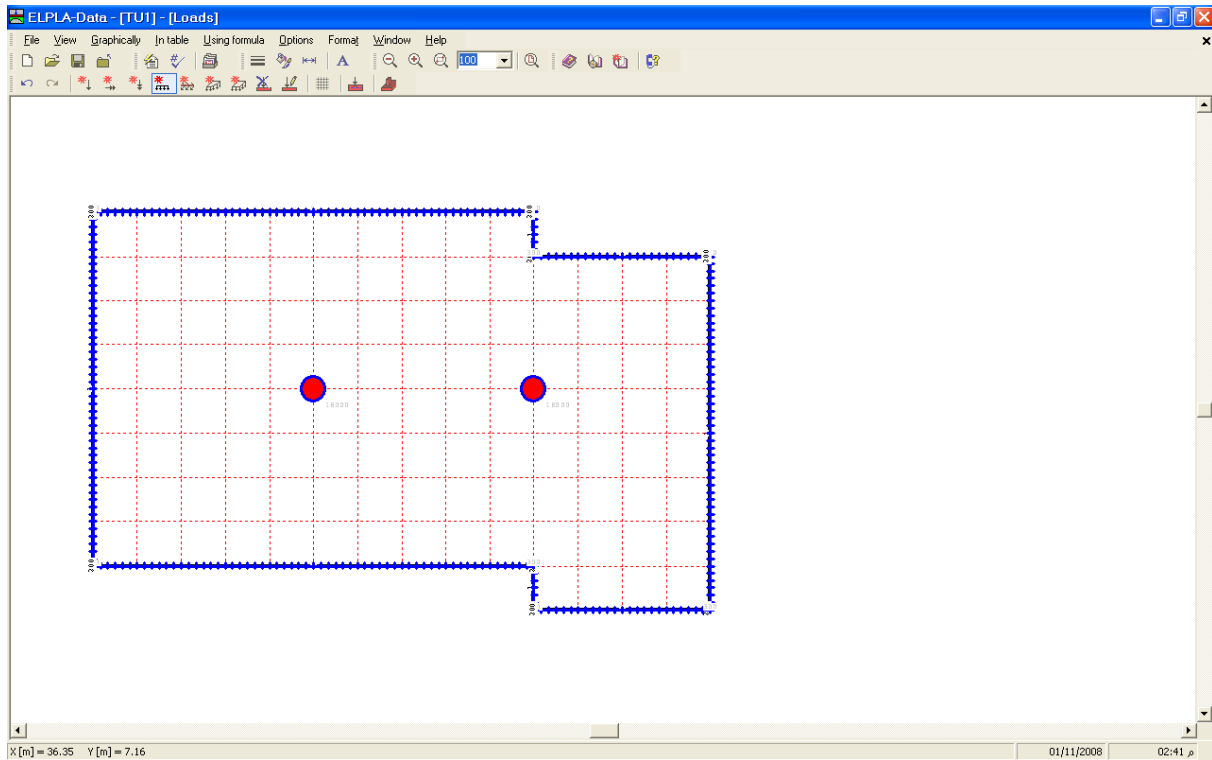

Figure 13-36 Loads on the screen
Repeat the previous steps for line loads using "Line loads" command from "In Table" menu. After you have completed the definition of all load data, the screen should look like the following Figure 13-36.
- Choose "Save loads" command from "File" menu in Figure 13-36 to save the load data
- Choose "Close loads" command from "File" menu in Figure 13-36 to close the "Loads" embedded program and return to the main window of *ELPLA-Data*